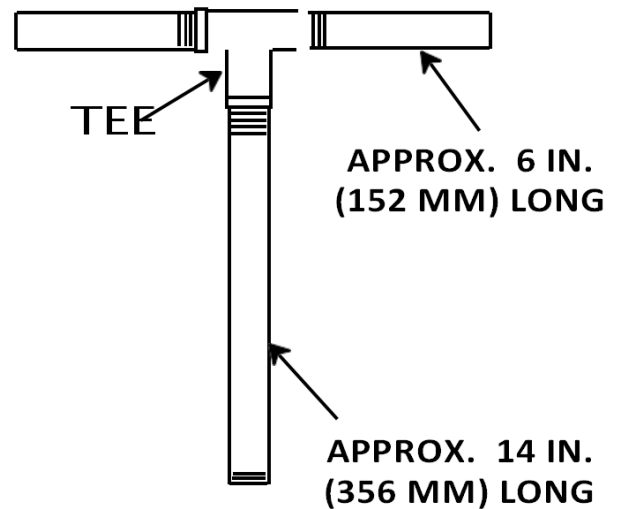

Figure 3. Rotating Assembly Tool
*An optional disassembly tool is not provided by the factory. A similar tool may be assembled using 1/2-inch pipe (schedule 80 steel or malleable iron) and a standard tee (see **Figure 3**). All threads are 1/2-inch NPT. Do not pre-assemble the tool.*